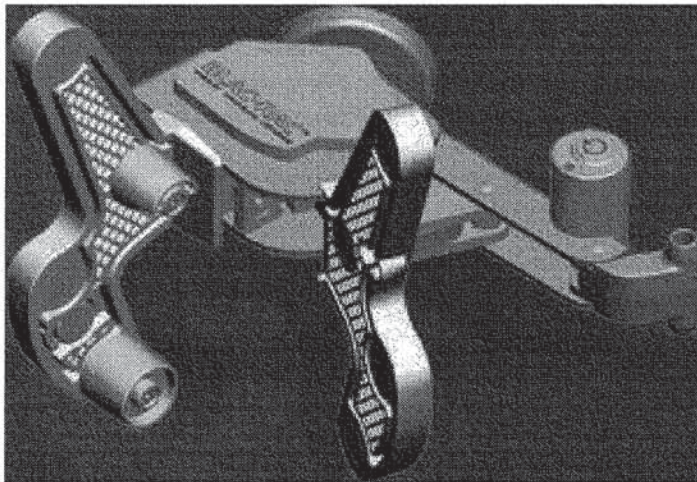

Figure 31 - Blac-Rac™ Model 1070 with Integral Lockset (key type not exactly as shown)
- (1). Installation of this secure rack-type PCVSS requires the Blac-Rac™ Model 1070 Tactical Weapons Rack with External 3/8 inch Hasp and Blac-Rac™ T-Rail System;
- (2). In this configuration the rack shall be secured with a CF/DND-standard Abloy F283 (Model PL330) high security padlock; and
- (3). The rack shall be installed on the T-Rail System which will be installed on the equipment tray in such a manner that the carbine is held horizontally;
- b. **Blac-Rac™ Model 1070 with Integral Lock:** This secure rack-type PCVSS is currently one of the three models approved for Police Interceptor Sedan marked MP vehicle and is illustrated at Figure 31 below:
- (1). Installation of this secure rack-type PCVSS requires the Blac-Rac™ Model 1070 Tactical Weapons Rack with Intergral Lock and Blac-Rac™ T-Rail System;
- (2). In this configuration the rack is supplied with an integral high security double-sided (Pagoda style) cam lock. The rack is normally delivered with two identical keys (*Note: This is a proprietary lockset so extra keys cannot be made or copied locally. Key copying and re-keying can only be done by the manufacturer*); and